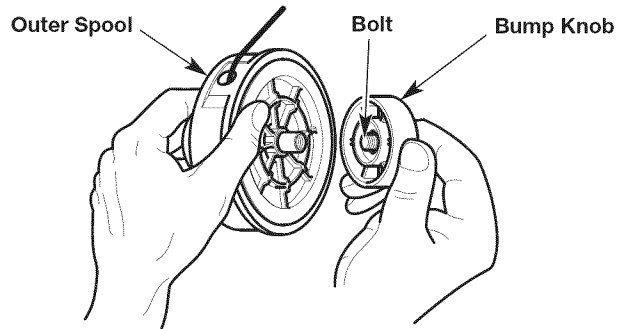

Fig. 15
1. Hold the outer spool with one hand and unscrew the bump knob clockwise (Fig. 15).